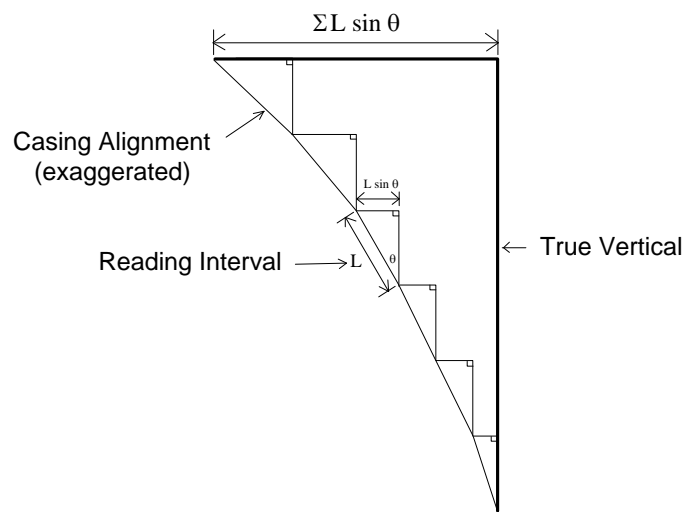

Figure 4. Inclinometer Survey Description
Subsequent surveys of the inclinometer casing, when compared with the original survey, will reveal any changes of inclination of the casing and the locations at which these changes are taking place. Analysis of the change of inclination ($L \sin \theta$) is best performed by computing the horizontal offset of the upper wheels relative to the lower wheels over the reading interval (L) of the survey (usually the wheel base of the probe, 2 feet for English systems, .5 meter for Metric). At each position of the inclinometer the two readings taken on each axis (A+, A- and B+, B-) are subtracted from each other leaving a measure of $\sin \theta$. This value is then multiplied by the reading interval (L) and the appropriate factor to output horizontal deflection in engineering units (inches for English, centimeters or millimeters for Metric). These offsets are compared to the original survey offsets and then the differences accumulated to produce a deflection profile as shown in Figure 4.